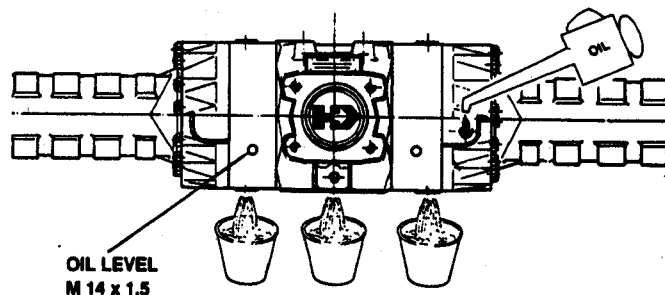

Figure 1.
2. Clean area around the differential check/fill plug (Figure 1). Remove plug from axle housing and check oil level. Oil must be level with bottom of fill plug hole. If low, add recommended oil, see Section 1050.
2. Clean around the differential fill/check plug and drain plugs (See Figure 1).